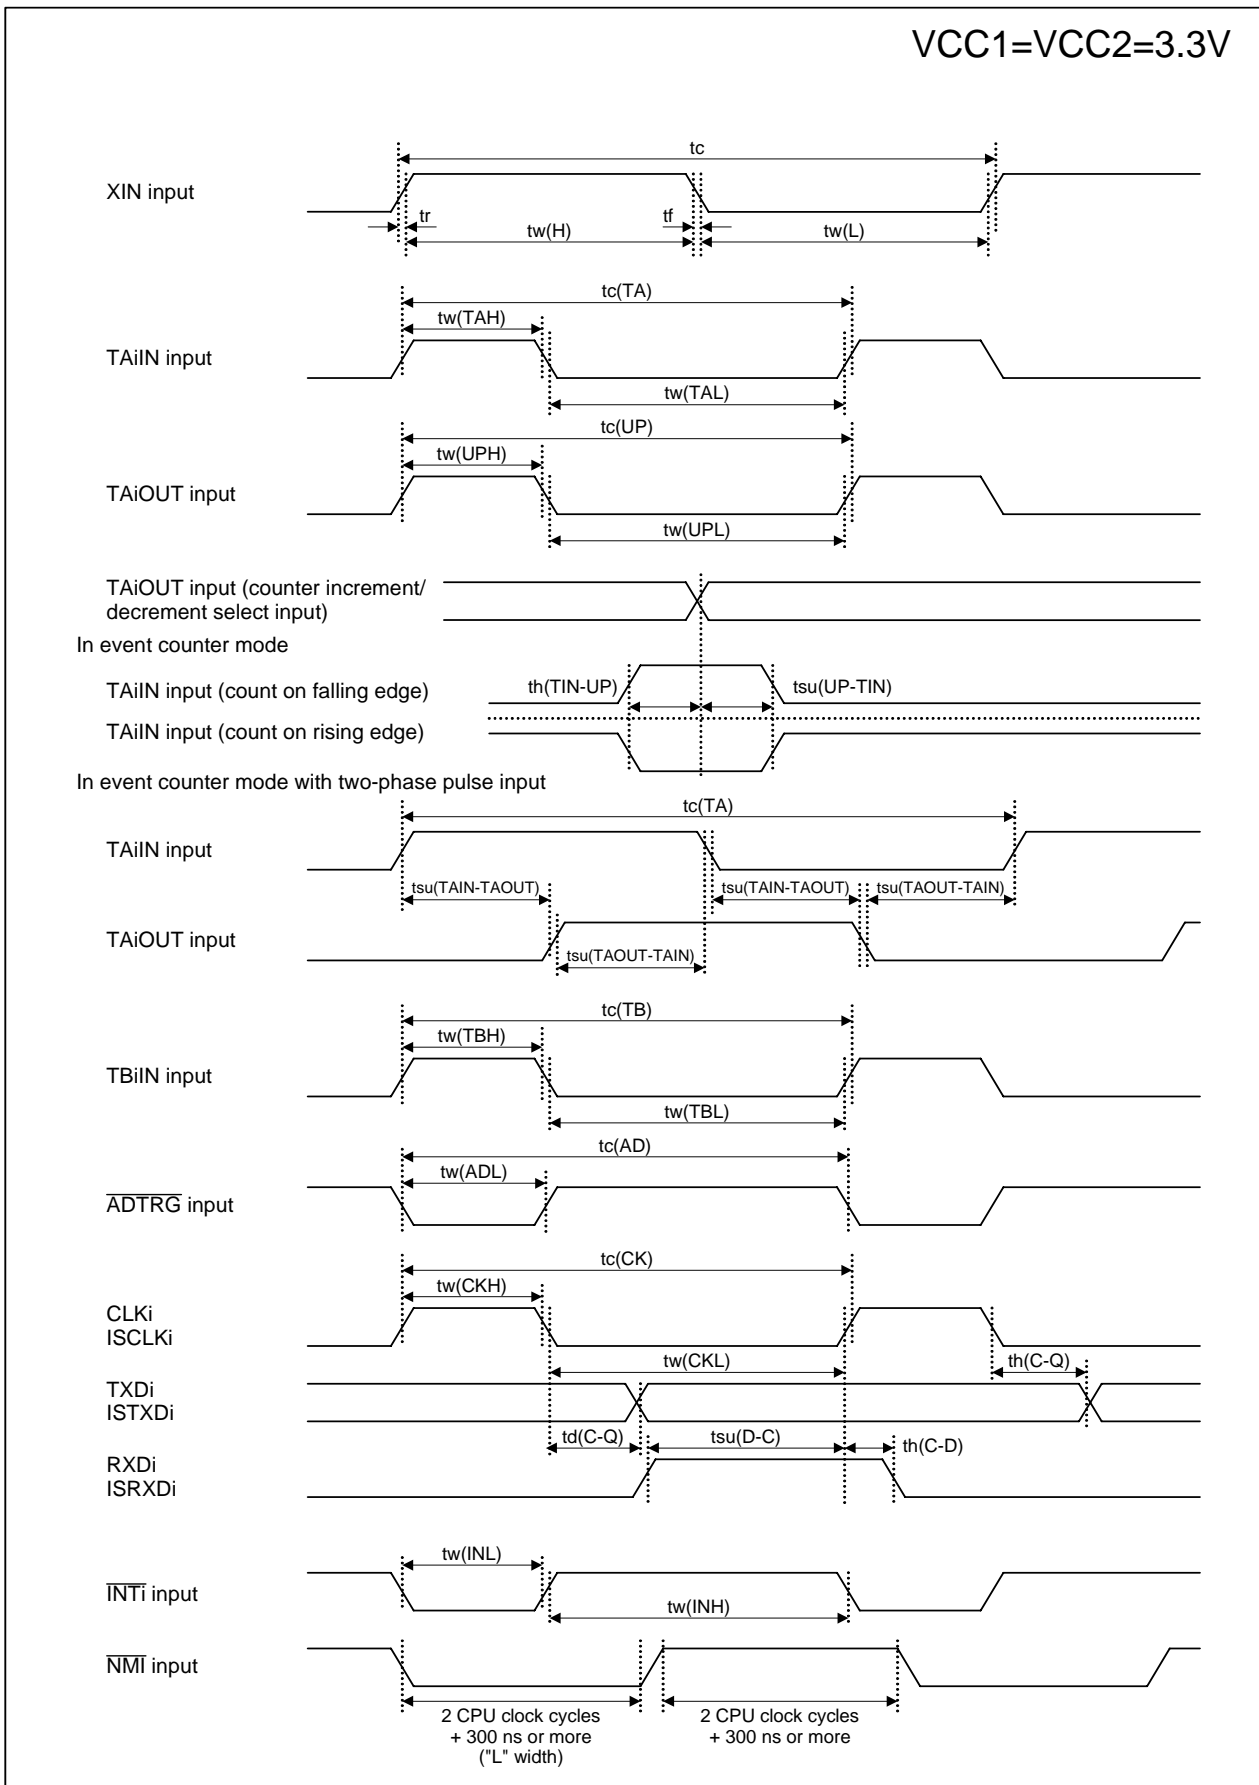

Figure 5.7 VCC1 = VCC2 = 3.3 V Timing Diagram (1/4)
71	• Figure 5.7 Vcc1=Vcc2=3.3V Timing Diagram (1) $t_h(BCLK-AD)$, $t_h(BCLK-CS)$ and $t_h(BCLK-RD)$ values modified; $t_{ac1}(AD-DB)$ expression on note 2 modified; $t_h(WR-DB)$, $t_h(WR-AD)$ and $t_w(WR)$ expression on note 3 modified; t_{cyc} expression added
47	Electrical Characteristics <ul style="list-style-type: none"> [Term changed] Low Voltage Reset → Hardware Reset 2 Low Voltage Detection → Vdet3 and Vdet4 detection circuit Table 5.1 Description in Condition field of Pd (Power consumption) partially modified Tables 5.2 to 5.9 f(BCLK) is changed to f(CPU) Table 5.4 Description added in Parameter field of f(CPU); f(VCO) added Tables 5.5 to 5.7 and Tables 5.31 to 5.33 Description in XCOUT and Hysteresis in Parameter fields partially modified Table 5.7 and 5.33 Structure and standard values revised; items in Measurement Condition and NOTE added Table 5.8 Description in Parameter field and NOTE partially modified Table 5.9 and 5.10 Description in Parameter field and NOTE partially modified Tables 5.11 and 5.36 Description in Parameter field and standard value partially modified Tables 5.19 and 5.42 added Table 5.24 Values revised; Table 5.25 and 5.26 added Table 5.27 Titles modified; NOTE added Table 5.28 moved to the last table in Timing Requirements Table 5.29 NOTE 3 added; Table 26.30 NOTE 5 added Figures 5.3 to 5.6 Order rearranged; measurement condition modified Table 5.31 to 5.35 f(BCLK) revised to f(CPU) Table 5.47 Values revised; Table 5.48 and 5.49 added Table 5.50 Titles modified; NOTE added Table 5.51 Table moved to the last table in Timing Requirements Table 5.52 NOTE 3 added; Table 5.53 NOTE 5 added Figures 5.7 to 5.10 Order rearranged